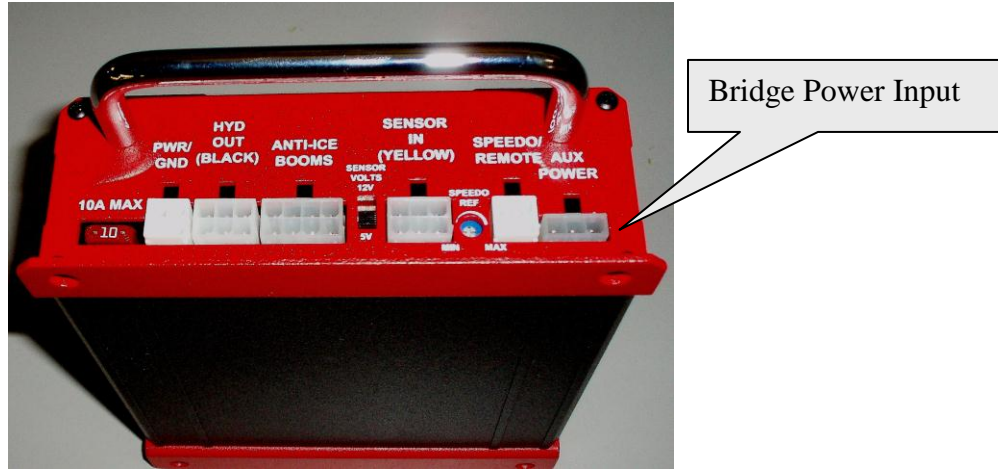

Figure 1.1
- 1.) Connect the power adapter to the back panel on the wireless bridge (figure 1.0) plug the other end of the power adapter into the *SpreadSmart™* or *Datashark™* end plate labeled Aux Power (figure 1.1).